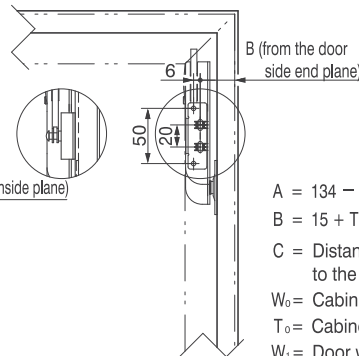

Fig. 4
This drawing shows the case of installation to solid wooden door or 45mm width aluminum frame door (HDSN-SZ) As for the case of installation to 20mm width aluminum frame door (HDSN-AZ), refer to Fig. 4 and 5.
The fixing screws are not supplied. Prepare them separately (M3.5-4 is recommended). Fix the HDSN-AZ mounting plate ⑦ with the prepared fixing screws firmly. (Fig. 4)